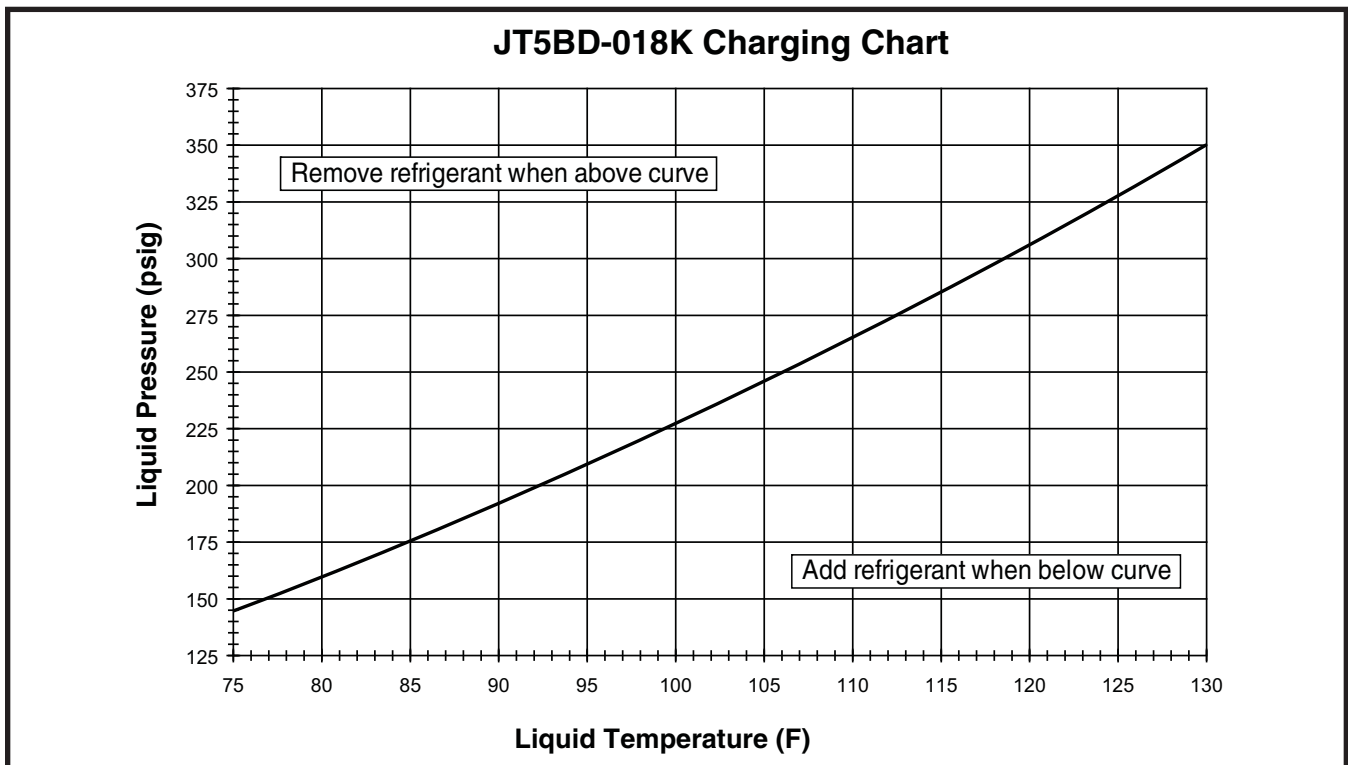

Figure 6. Charging Chart for 1.5 Ton Units
- Refrigerant charging charts are applicable only to matched assemblies of NORDYNE equipment and listed airflows for the indoor coil. Refer to Figures 6 - 12 (pages 11 - 14) and Tables 4 - 10 (pages 15 - 18) for correct system charging.